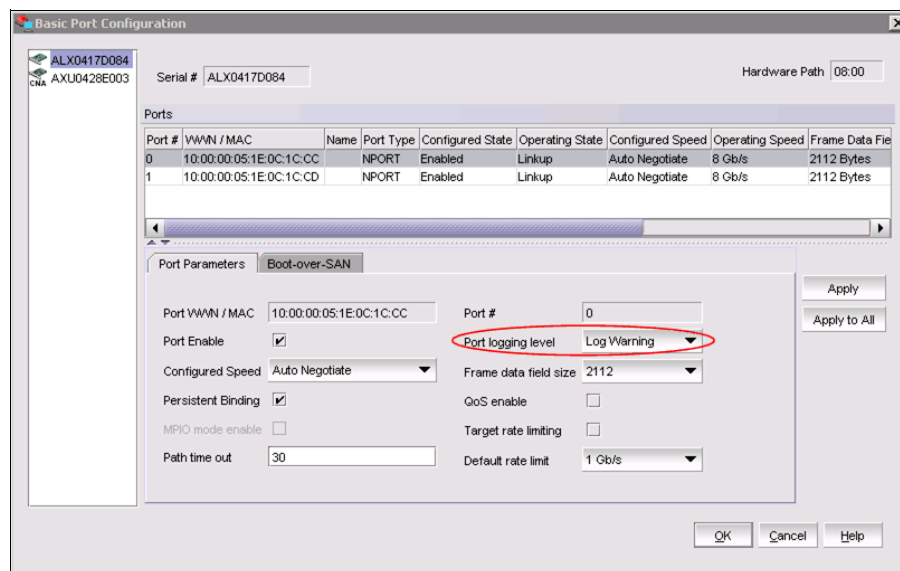

Figure 10-12 Adapter Port Logging level
2. Select a value from the *Port Logging Level* list as shown in Figure 10-12. Supported values are Log Invalid, Log Critical, Log Error, Log Warning, and Log Info.